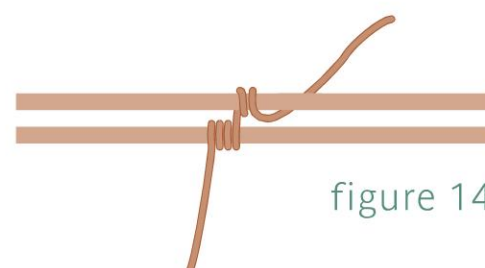

figure 14
- 4 Hold the second piece of 16-gauge wire (Frame Wire 2) parallel to Frame Wire 1. Bring the weaving wire underneath and over Frame Wire 2; coil twice (Figure 14).